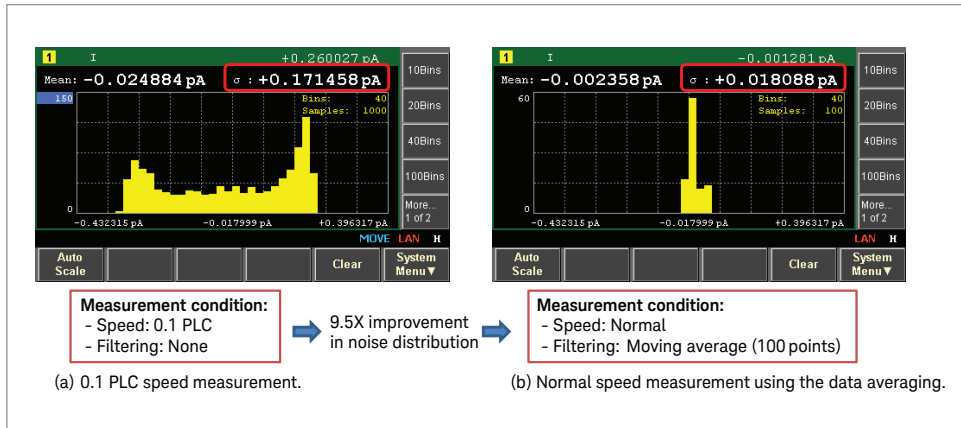

Figure 4. Using histogram view and other functions to improve measurement data.
Figure 4 shows an example of this procedure using the B2980A's Histogram View. The two histograms show the profound effect that measurement speed and data filtering can have when making measurements in a noisy test environment.
Figure 4(a) shows Histogram View results using 0.1 power line cycle (PLC) measurement speed and no filtering. The histogram distribution exhibits peaks at both ends and the measured sigma is 0.17 pA. Figure 4(b) shows the same measurement performed using Normal speed (which does PLC averaging) and a 100 point moving average filter on the measurement data. In this case the measured sigma is 0.018 pA, which is about 9.5 times ( $= 0.17/0.018$ ) smaller than the sigma shown in Figure 4(a).
*Note: The sample histogram shown in Figure 4(a), which has a bimodal distribution with peaks at both ends, is typical of the situation where sinusoidal power line voltage is the main noise source. Figure 4(b) illustrates that the line frequency noise components can be filtered out using power line cycle integration and data averaging.*